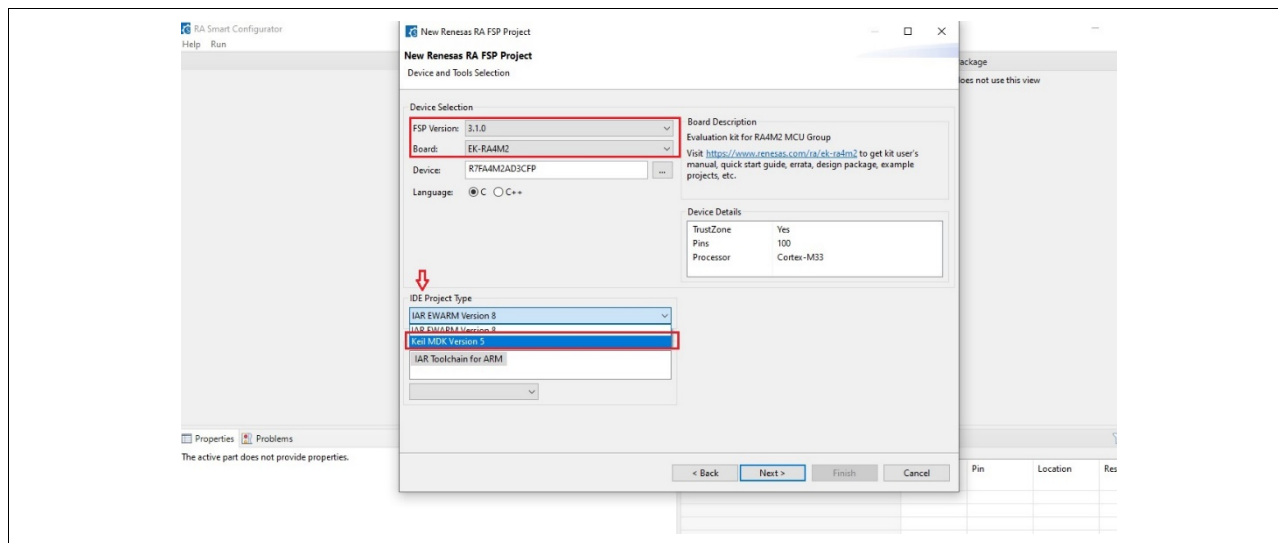

Figure 33. Select Project Type
3. The next step is to select the required FSP version and board. The project type of the particular IDE can be selected in this step as shown in Figure 33. Select **Keil MDK version 5**.